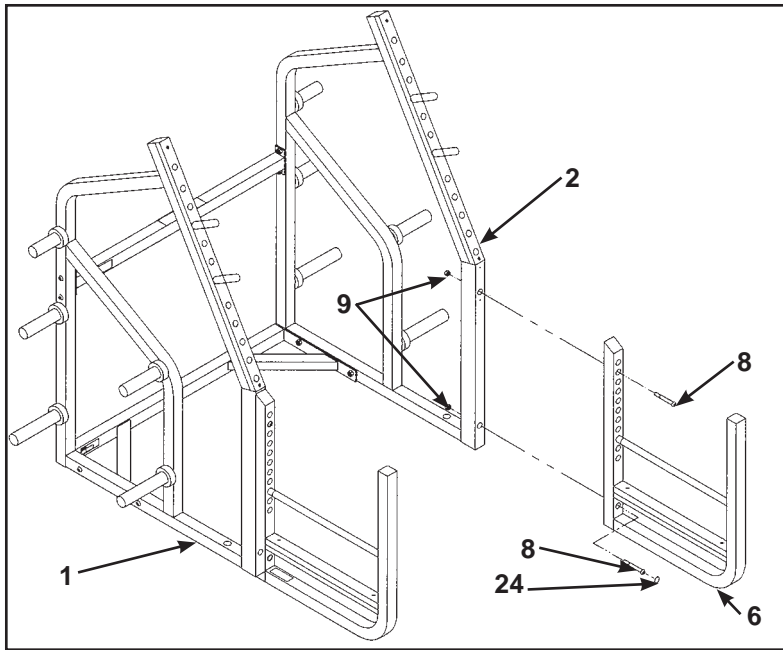

Figure 10
C. Repeat Step 6B to attach other side. See Figure 10.